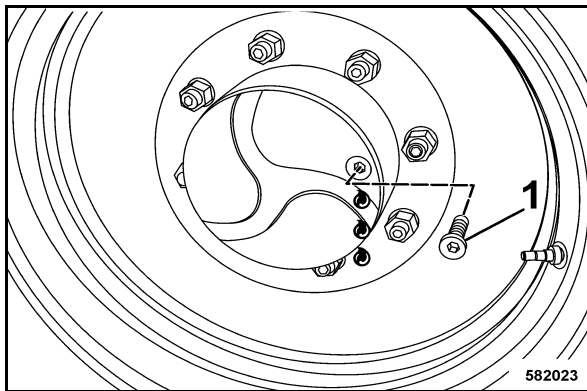

Fig. 129
- Park the machine so that the plug (1) (Fig. 129) is in horizontal position.